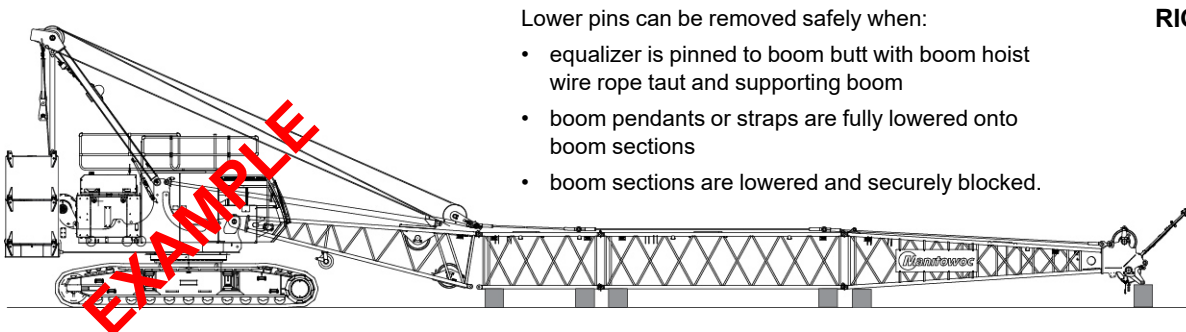

Figure 2-5. Boom Disassembly
- Do not remove bottom connecting pins from any boom section when boom is supported by pendants as shown in Figure 2-5, View A.
- Do not remove pendant connecting pins until pendants are fully lowered onto boom sections as shown in Figure 2-5, View C.
- Do not remove bottom connecting pins from any boom section when boom point is resting on ground or blocking and boom rigging is slack as shown in Figure 2-5, View B.
- Never work or stand inside boom unless it is lowered and securely blocked as shown in Figure 2-5, View C.